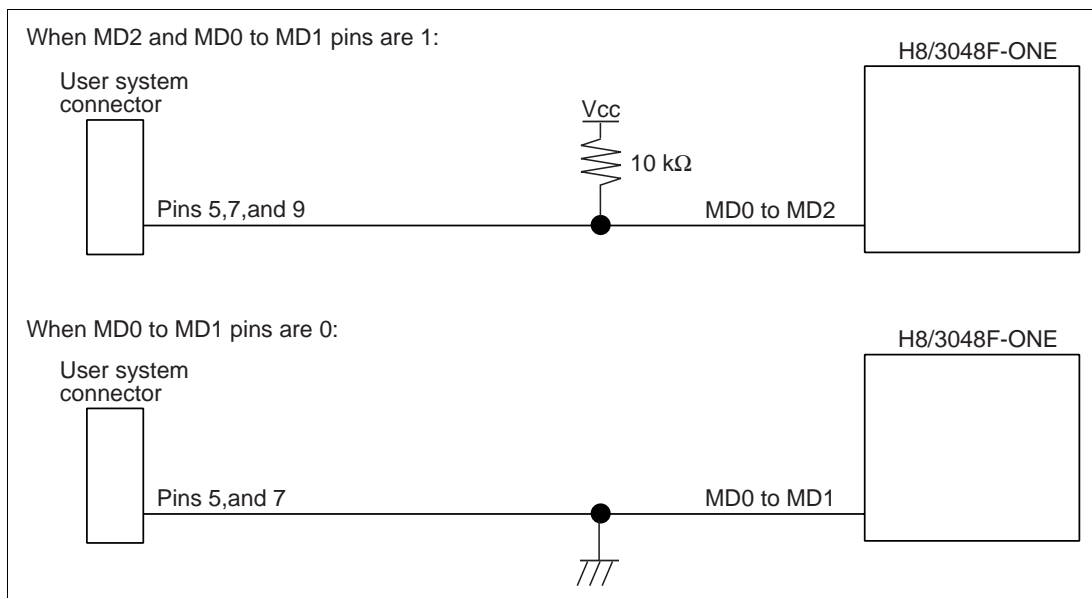

Figure 6.6 Example of Circuits for Operating Mode Setting Pins
- MD0 to MD2 pins are used by the emulator at power-on reset. Connect MD0 to MD2 pins as shown in figure 6.6.